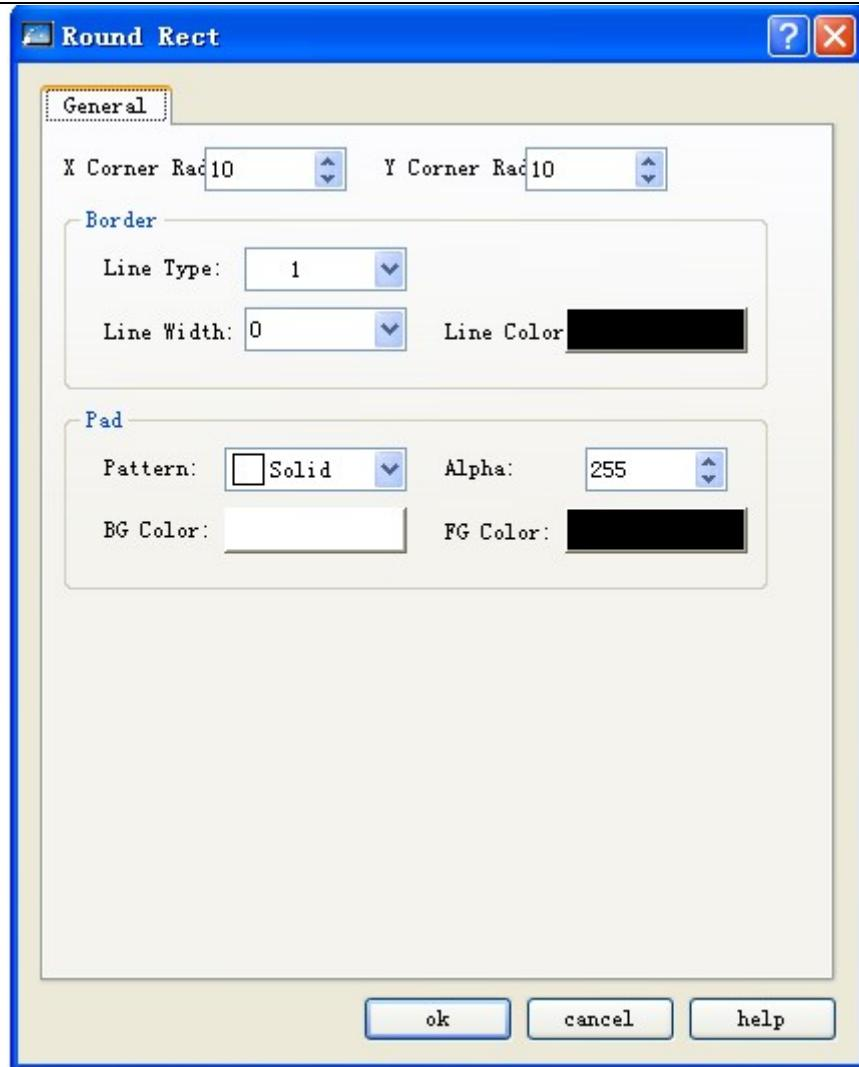

Figure 4-31: Rounded rectangle property dialog
- After completing the above steps, the rectangle has default settings in transparency, line type, line width, line color, and filling pattern. You can modify these settings basing on actual needs. To do this, move the mouse onto the rectangle and double click, or click Properties button in the tool bar after choosing the rectangle. At this moment, a property dialog similar to that in rectangle drawing will appear. See Figure 4-31: